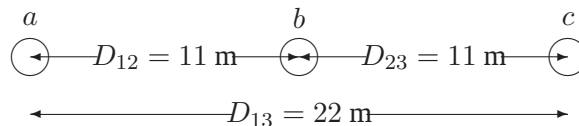
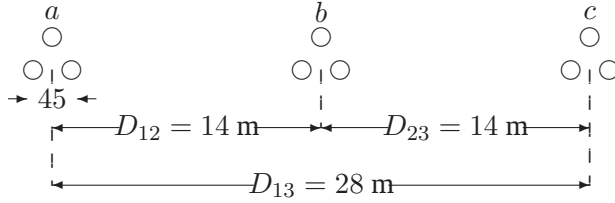

FIGURE 39
FIGURE 40
4.9. A three-phase transposed line is composed of one ACSR 1,431,000 cmil, 47/7 Bobolink conductor per phase with flat horizontal spacing of 11 meters as shown in Figure 39. The conductors have a diameter of 3.625 cm and a GMR of 1.439 cm. The line is to be replaced by a three-conductor bundle of ACSR 477,000 cmil, 26/7 Hawk conductors having the same cross-sectional area of aluminum as the single-conductor line. The conductors have a diameter of 2.1793 cm and a GMR of 0.8839 cm. The new line will also have a flat horizontal configuration, but it is to be operated at a higher voltage and therefore the phase spacing is increased to 14 m as measured from the center of the bundles as shown in Figure 40. The spacing between the conductors in the bundle is 45 cm. Determine